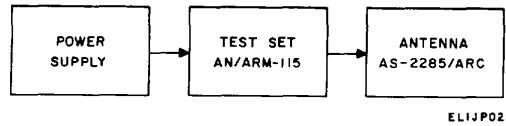

Figure 5-3. Test connections, receive/transmit logic and homing circuit tests.
- (1) Test Set, Antenna AN/ARM-115.
- (2) Power Supply.
b. Test Connections and Conditions. Connect the equipment as shown in figure 5-3. Turn on the equipment and allow 5-minute warmup before proceeding.